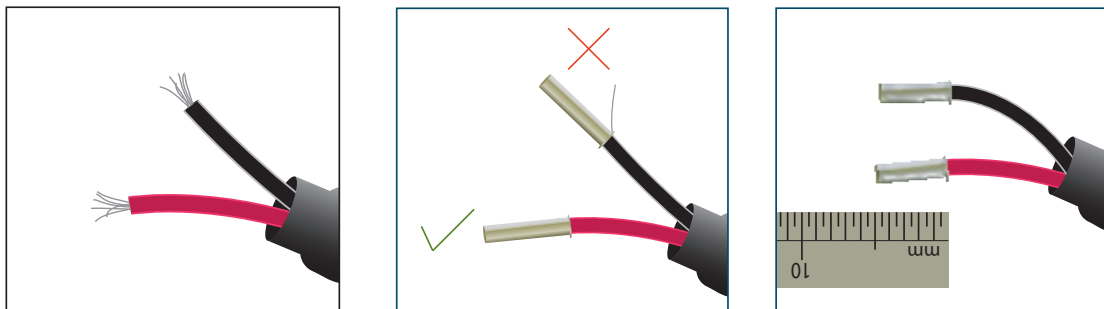

Figure 5 *Wire and Crimp Details*
**NOTE: Figure 5 shown below, should be followed in detail. The crimps should be applied such that there is no possibility of a conductor strand of a core becoming free.**